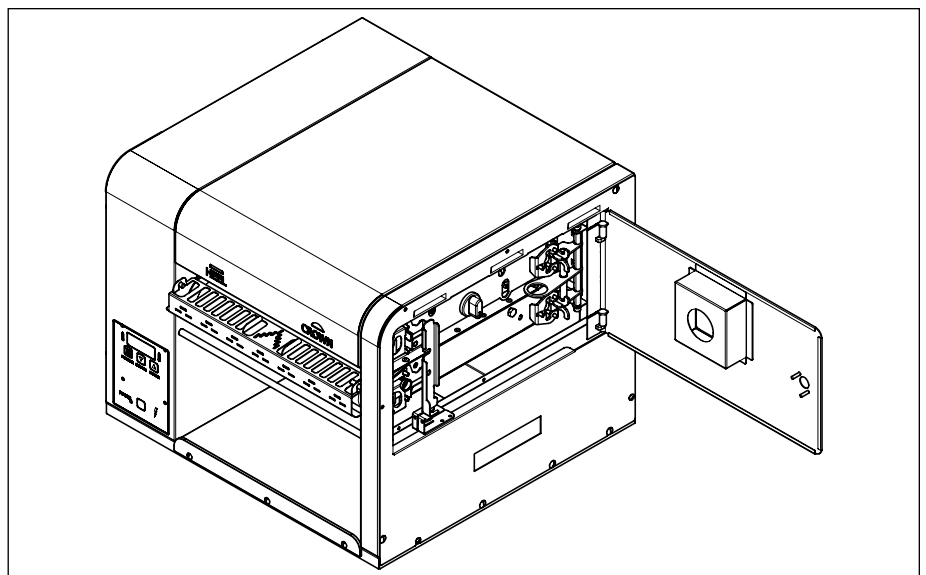

Figure 1. Gold Standard Toaster - 2H
3. Open the side door (Figure 1) and remove all of the plastic ties securing the toaster mechanism.
2. Put on heat resistant gloves. Remove the Top Cover, Feeder, and Chute (Figure 1).
7. Reinstall all accessories (Figure 1).